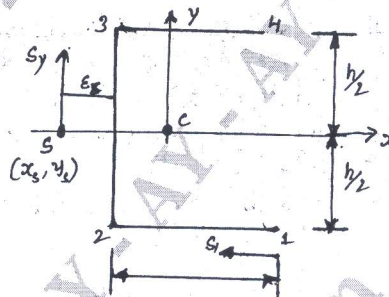

Fig Q6(b)
- b. Calculate the position of the shear centre of the thin walled channel section shown in Fig Q6(b) the thickness 't' of the wall is constant. (10 Marks)